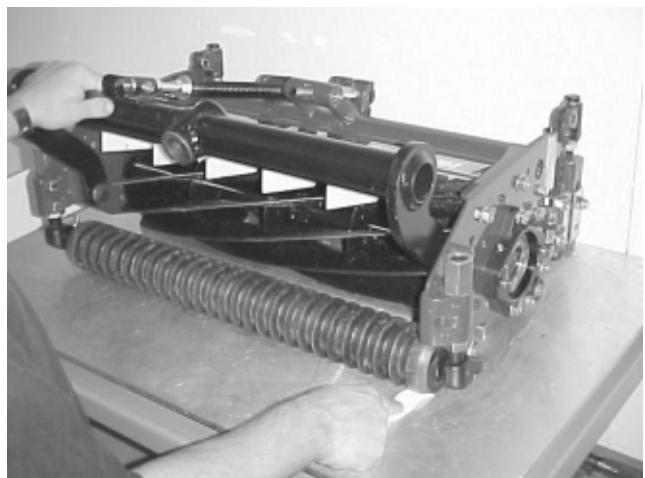

Figure 24
4. **Adjust front brackets until both ends of roller are in contact with level surface.** Use a piece of newspaper or visually check to see if any gap exists between roller ends and flat surface (Fig. 24).